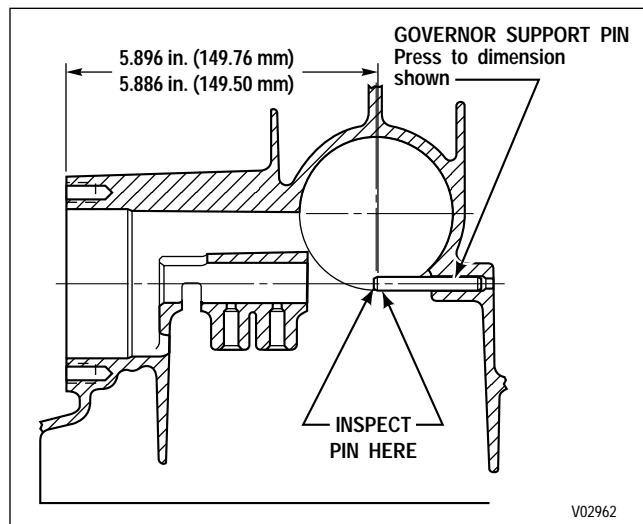

Figure 6-57. Governor Support Pin Location
(5) Inspect governor support pin 12 for evidence of wear. If any wear is noted on the end or on the OD of the pin, remove the pin using pin remover tool J 28708 (Figure 6-57).
(6) Inspect test plugs 8 and 13 (Foldout 12,A). Replace if damaged.
(7) If it is necessary to replace a damaged nameplate 5, remove one drive screw 4.
(5) If governor support pin 12 was removed, install a new pin using tool J 28684. If the tool is not available, install the pin to dimensions shown in Figure 6-57.
(6) Install 1/8 inch test plugs 8 and 13 (Foldout 12,A) into housing 11. Tighten the plugs to 48–60 lb in. (5.5–6.7 N·m).